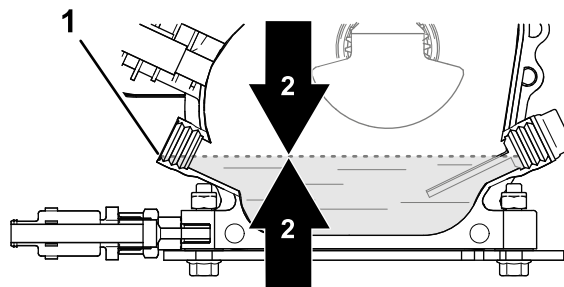

Figure 28
4. Check the oil level (Figure 28).